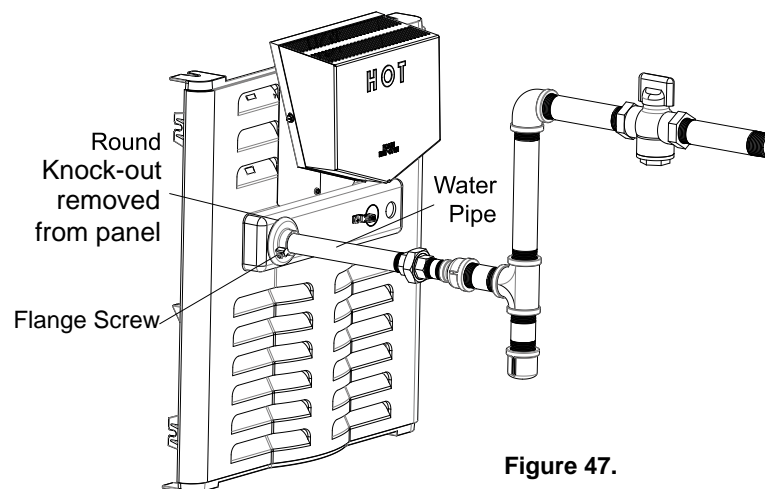

Figure 47.
1. Place the water pipe escutcheon over the water pipe, see **Figure 47**.